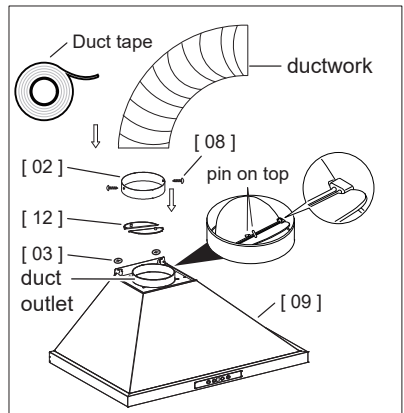

Fig 4
1. Hang the **Range Hood [09]** on the **#10 x 1.77" Screws [03]**. (Fig 4)
2. Install both **Damper Flaps [12]** inside the **duct outlet**, making sure the pins are on top. (Fig 4)
3. Install **Metal Adapter [02]** to the duct outlet. Align the side holes of it with the side holes of the duct outlet and secure it with **#4 x 0.31" Screws [08]**. Secure your ducting connection to the **duct outlet** using **Duct tape** to hold it in place. Try to minimize the use of elbows. More elbows and longer runs will reduce the air suction. Use **Duct tape** to make all joints secure and air tight. (Fig 4)